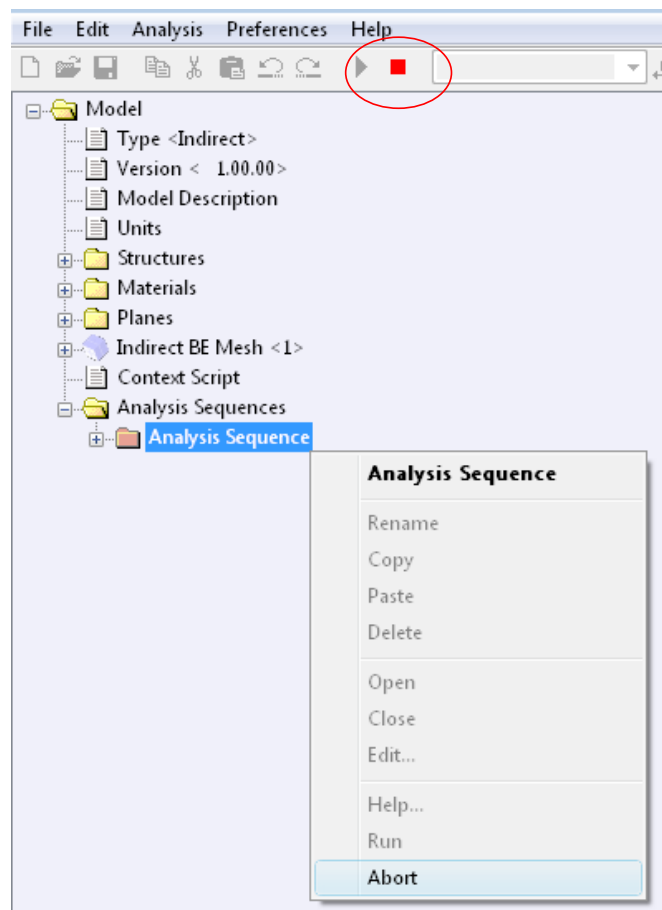
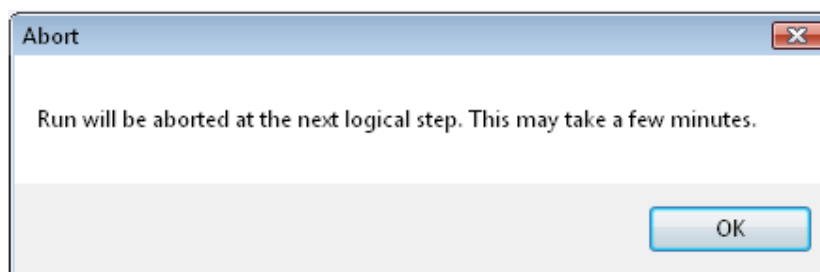

Figure 7.4: Abort the analysis run.
Figure 7.5: Abort message.
- **Abort the analysis run.** To abort a run right-click on the analysis sequence running current analysis and select **Abort**. You could also abort a run from the Main menu: **Analysis** → **Abort** or by clicking on the red abort button (Figure 7.4). *Coustyx* won't stop the analysis run immediately. The analysis continues to run until it reaches a valid state to abort gracefully. This may take a few minutes. See Figure 7.5.